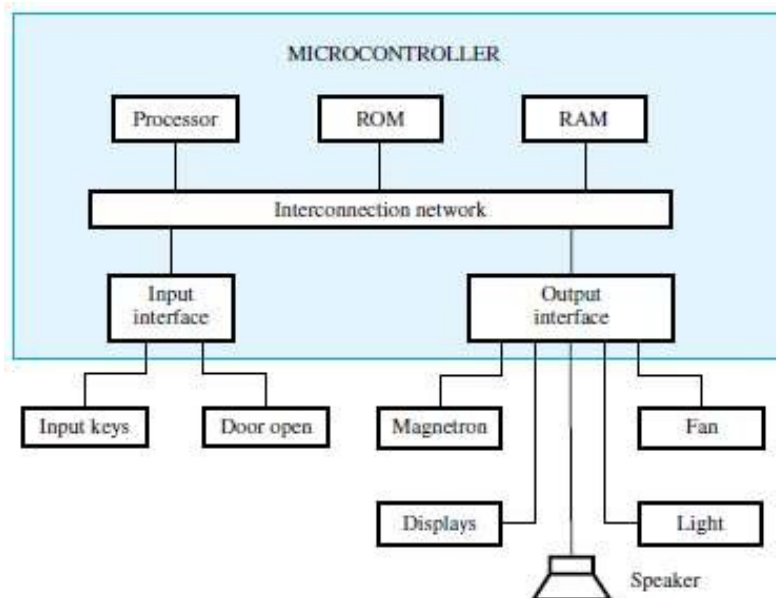

Figure 10.1 A block diagram of a microwave oven.
- So, the program will not be lost when the power is turned off (Figure 10.1).